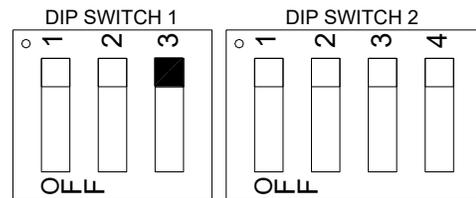

Figure 6
- Sensor signal output and synchronization signal output are alternatives and can be selected by the DIP switch #1-3 (Figure 6)